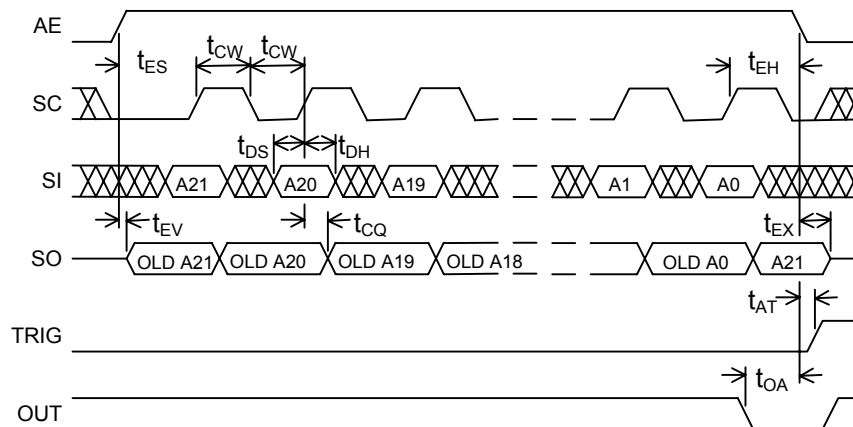

Figure 4: Address Update
While observing data setup (t_{DS}) and data hold (t_{DH}) requirements, timing data is loaded in MSB-to-LSB order by the rising edge of the clock (SC) while the enable (AE) is high, as shown in Figure 4. The falling edge of the AE activates the new pulse width value, which is reflected at the output upon the next trigger.